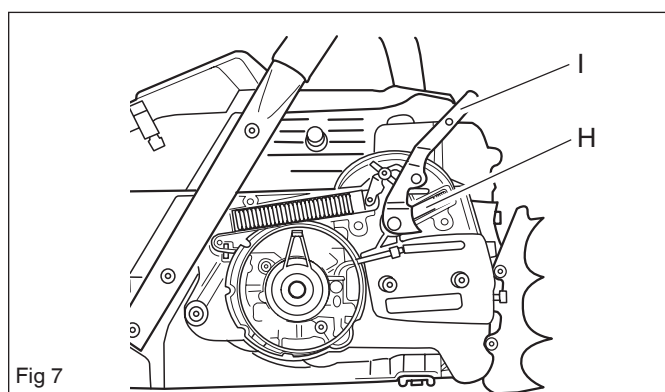

Fig 7
9. Press down the retaining bush (H) while releasing the lever (I) with a screwdriver. See Fig 7.
3. Grease and fit the lever (I). See fig. 7.
4. Grease and fit the retaining bush (H) with spring. See fig. 7.